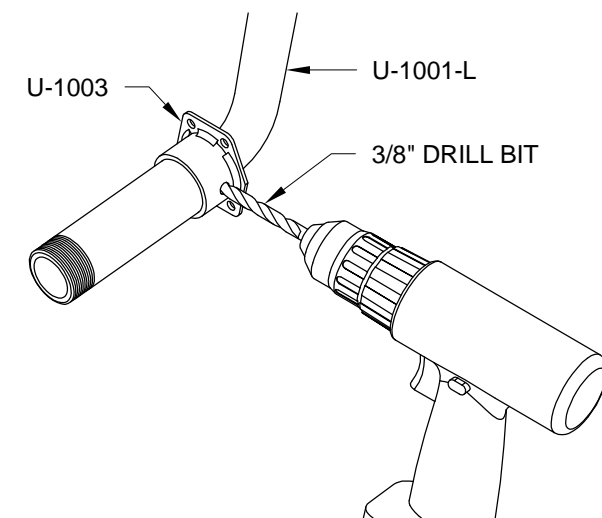

FIGURE 3: DRILLING THE BRAKE MOUNT
Step 4: Slide one of the U-1003 Brake Mounts onto the U-1001-L Main Gear Leg axle as shown in Figure 3.